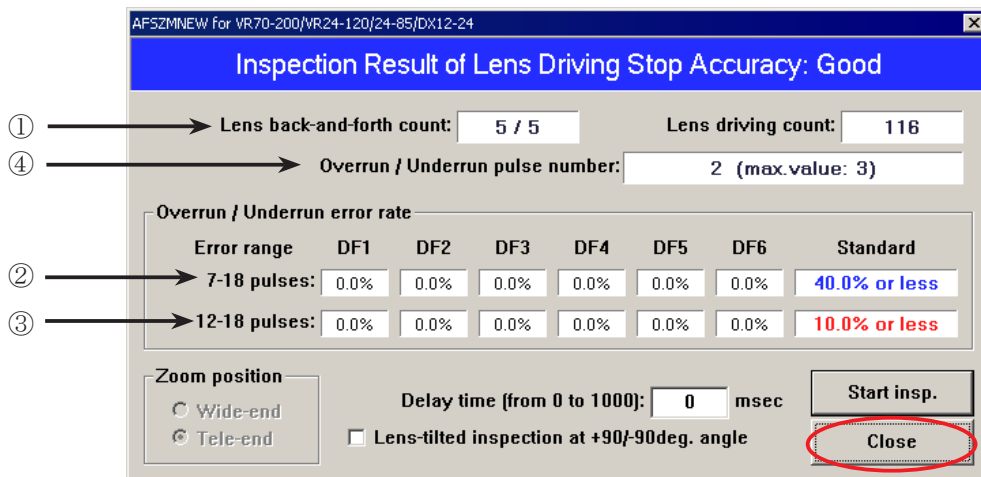

Fig.2
- Df1~Df6: 10% or less (12-18 pulse occurrence ratio) ③ of "Fig.2"
- 19-or-more pulse occurrence: 0 for Df1 ~ Df6 (Even only one occurrence is judged as defective.) ④ of "Fig.2"
⑤ When the operation check is completed, the result is displayed as shown in "Fig.2".
- ② Select each driving amount. Confirm that each lens driving time is within the standard. (Fig.2)
- ③ If the inspection result is within standard, click "Close" to end. If any of each driving amount becomes out of standard, make the readjustment by referring to Page L34-16.